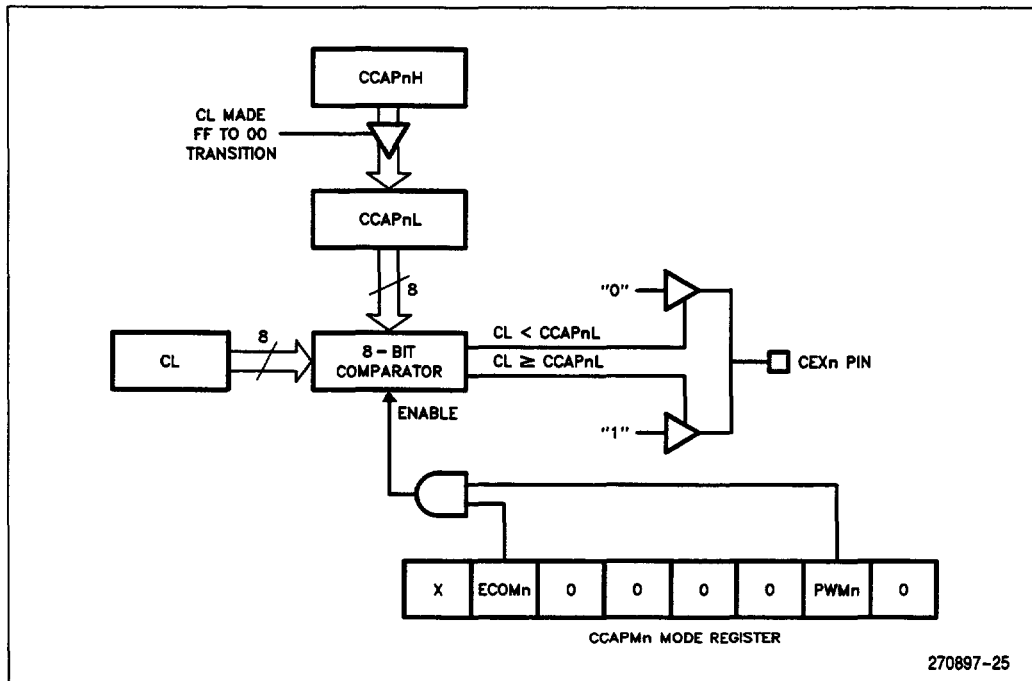

Figure 23. PCA 8-Bit PWM Mode
For this mode, the ECOMn bit and the PWMn bits in the CCAPMn mode register need to be set. The PCA generates 8-bit PWMs by comparing the low byte of the PCA timer (CL) with the low byte of the module's compare registers (CCAPnL). When  $CL < CCAPnL$  the output is low. When  $CL > CCAPnL$  the output is high. Refer to Figure 23.